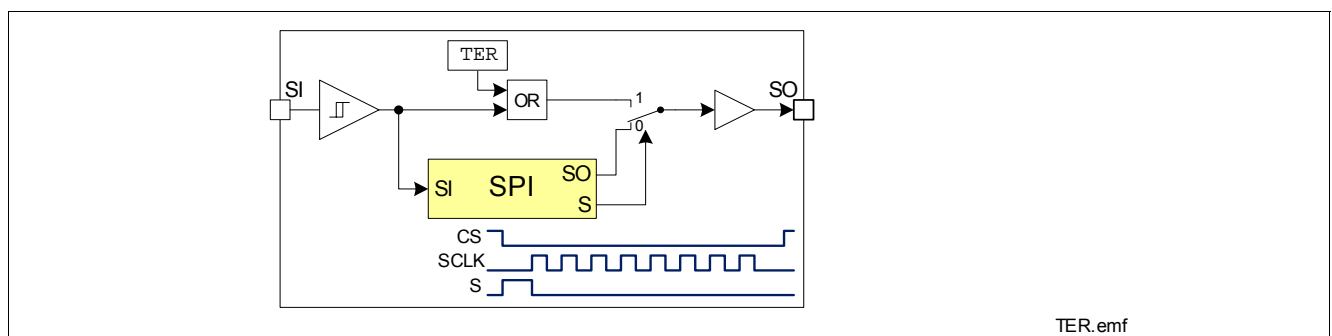

Figure 9 Transmission Error Flag on SO Line
- SO changes from high impedance state to high or low state depending on the logic OR combination between the transmission error flag (TER) and the signal level at pin SI. As a result, even in daisy chain configuration, a high signal indicates a faulty transmission. The transmission error flag is set after any kind of reset, so a reset between two SPI commands is indicated. For details, please refer to Figure 9. This information stays available to the first rising edge of SCLK.